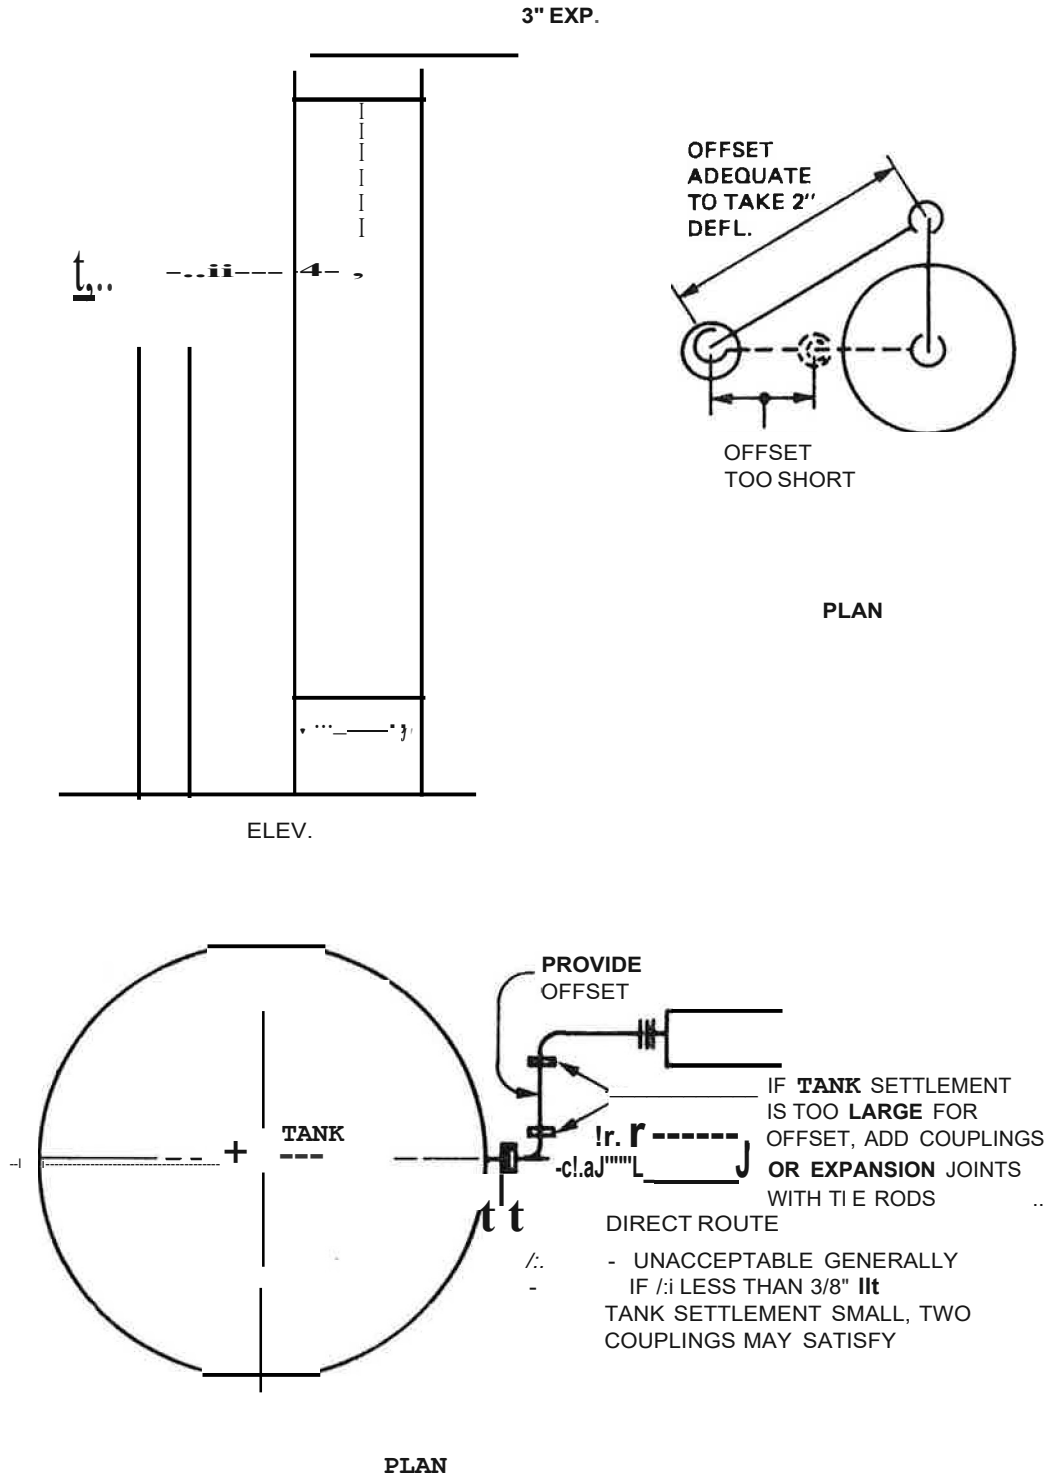

Figure 12-16.
- (3) Routing of connecting pipe from fractionating columns to strippers - See Figure 12-16
- (4) Avoidance of direct routing of pipe between equipment - See Figure 12-16